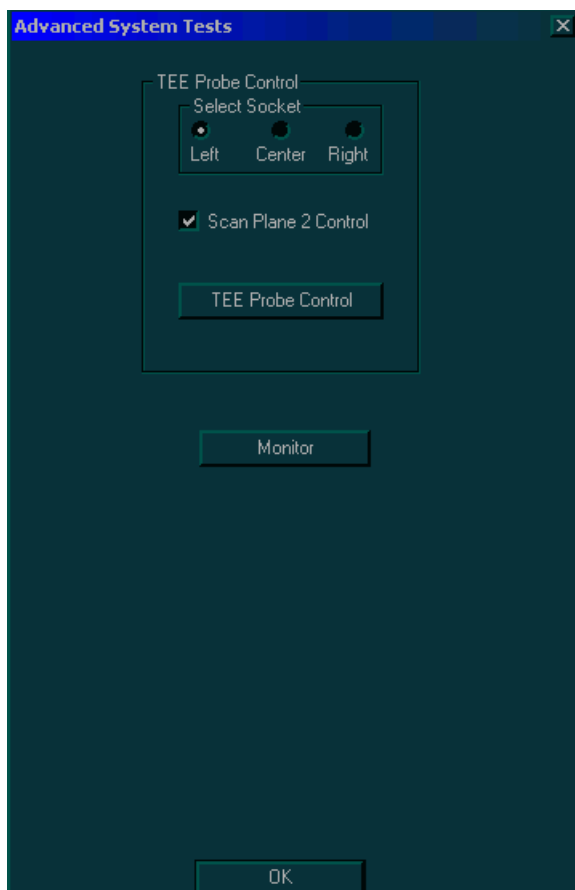

Figure 7-35 MUX Advanced System Tests Options
- 2) Trackball to the **Advanced board tests** button and press **Select**. The *Advanced System Tests* options are displayed, as shown in Figure 7-35 "MUX Advanced System Tests Options" on page 7-61.